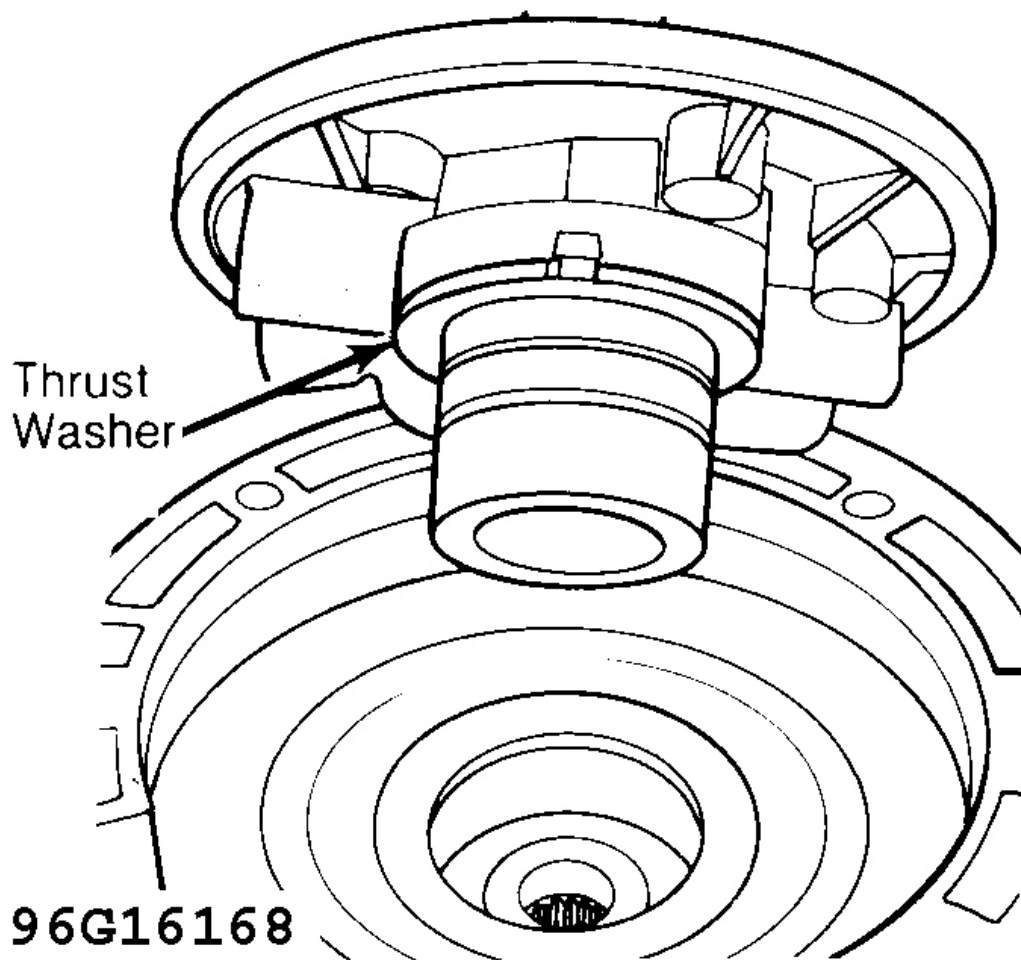

Fig. 37: Installing Pump Into Case
7. Install oil pump and thrust washer No. 1. See **Fig. 37** . Ensure pump body is correctly engaged. Pump body must be below level of case gasket surface. Mount a dial indicator on pump body with stylus resting on transmission housing. Zero indicator. Swing gauge around so stylus rests on pump body.